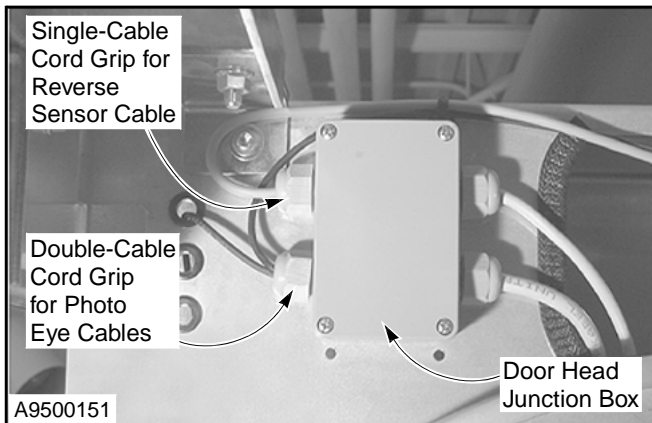

Figure 40
5. Remove the junction box cover and save the hardware for later use. Then pass the cable through the double-cable cord grip on the side of the junction box. Do not tighten the cord grip at this time. (See Figure 40.)